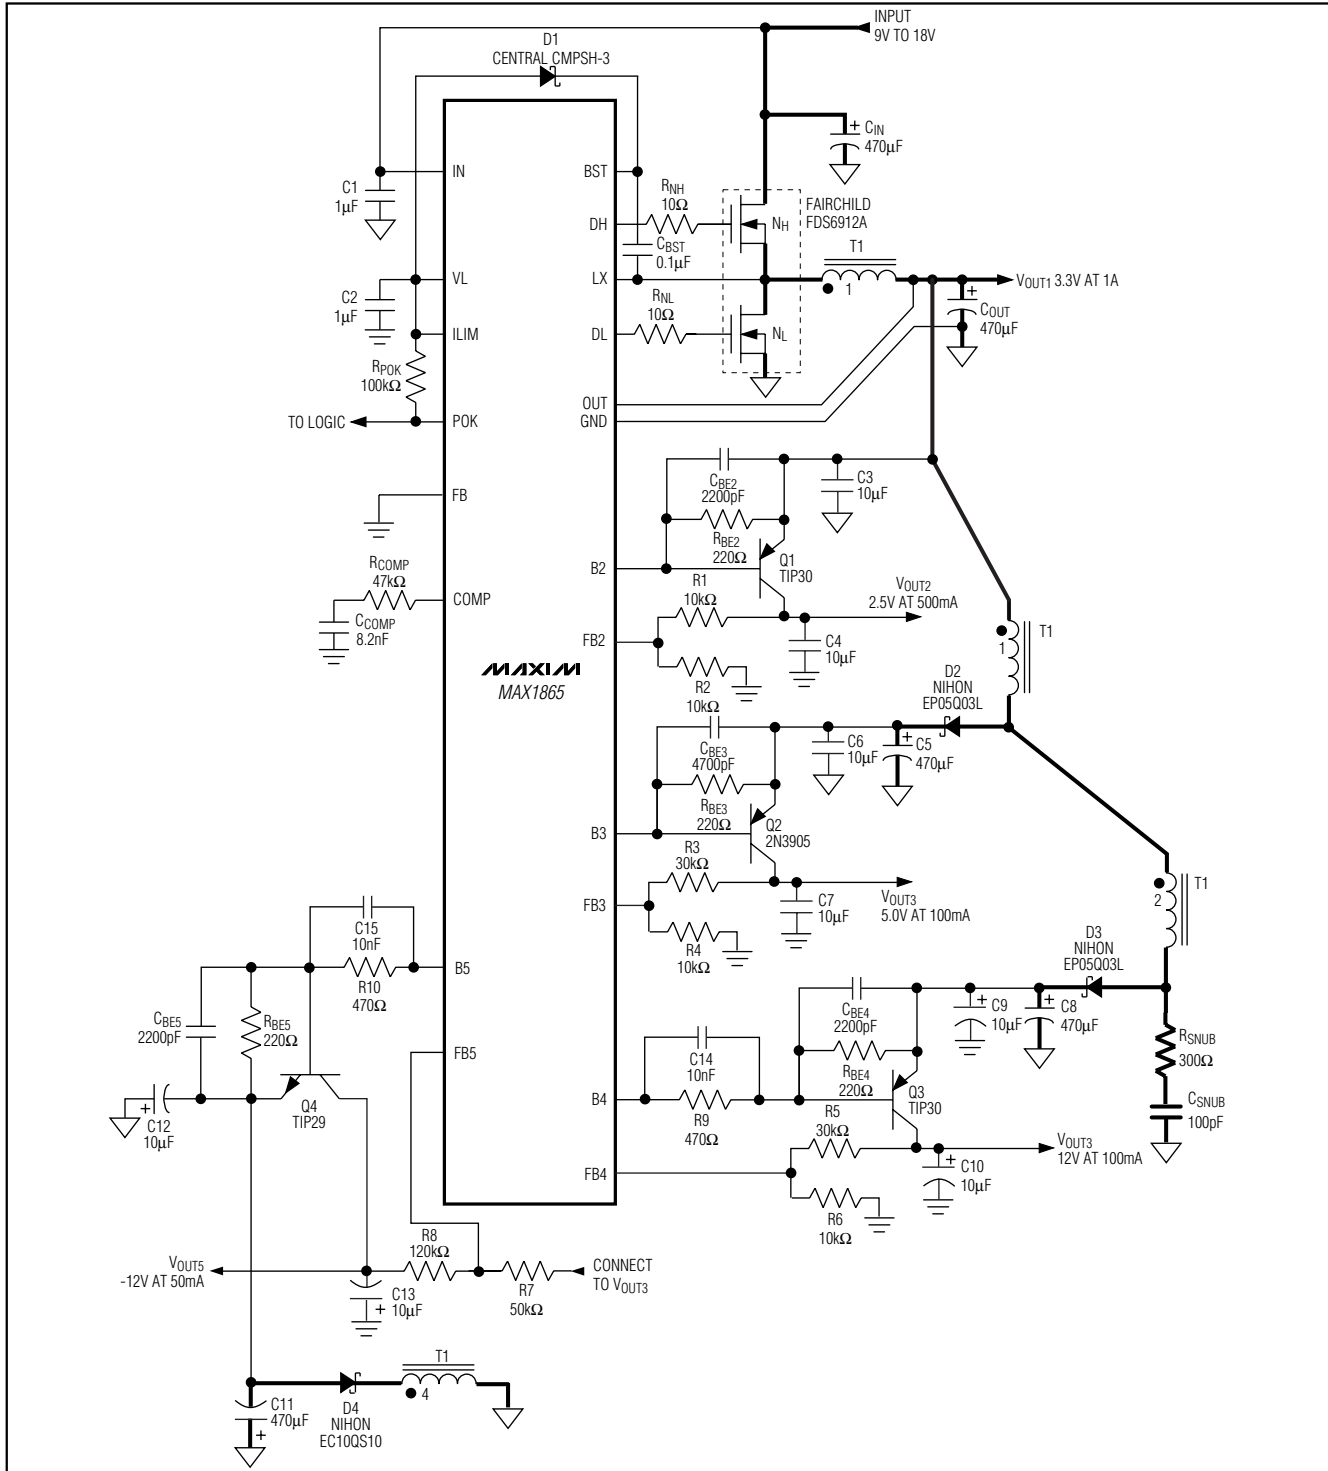

Figure 6. Standard MAX1865 Application Circuit
The MAX1864/MAX1865's positive linear regulator output voltages are set by connecting a voltage-divider from the output to  $FB_-$  to GND (Figure 6). Select  $R_4$  in the  $5k\Omega$  to  $50k\Omega$  range. Calculate  $R_3$  with the following equation:
The MAX1865's negative output voltage is set by connecting a voltage-divider from the output to  $FB_5$  to a positive voltage reference (Figure 6). Select  $R_6$  in the  $5k\Omega$  to  $50k\Omega$  range. Calculate  $R_5$  with the following equation:
In systems where the step-down controller's output is not the highest voltage, a transformer may be used to provide additional postregulated, high-voltage outputs. The transformer generates unregulated, high-voltage supplies that power the positive and negative linear regulators. These unregulated supply voltages must be high enough to keep the pass transistors from saturating. For positive output voltages, connect the transformer as shown in figure 6 where the minimum turns ratio (N) is determined by:
only), connect the transformer as shown in Figure 6, where the minimum turns ratio is determined by:
The MAX1864/MAX1865 use a current-mode control scheme that senses the current across the high-side MOSFET (NH). Immediately after the high-side MOSFET has turned on, the MAX1864/MAX1865 use a 60ns current-sense blanking period to minimize noise sensitivity. When the MOSFET turns on, however, the transformer's secondary inductance and the diode's parasitic capacitance form a resonant circuit that causes ringing. Reflected back through the transformer to the primary side, these oscillations across the high-side MOSFET may last longer than the blanking period. A series RC snubber circuit at the diode (Figure 6) increases the damping factor, allowing the ringing to settle quickly. Applications with multiple transformer windings require only one snubber circuit on the highest output voltage. Applications with low turn ratios (1:1), such as the MAX1864 typical application circuit (Figure 1), may not require a snubber circuit.
For the EC10QS10 Nihon diode used in figure 6, the capacitance is roughly 15pF. The output snubber must only dampen the ringing, so the initial turn-on spike that occurs during the blanking period remains preset. A 100pF capacitor works well in most applications; larger capacitance values require more charge, thereby increasing the power dissipation.
The snubber's time constant ( $t_{\text{SNUB}}$ ) must be smaller than the 100ns blanking time. A typical RC time constant of approximately 30ns was chosen for Figure 6: